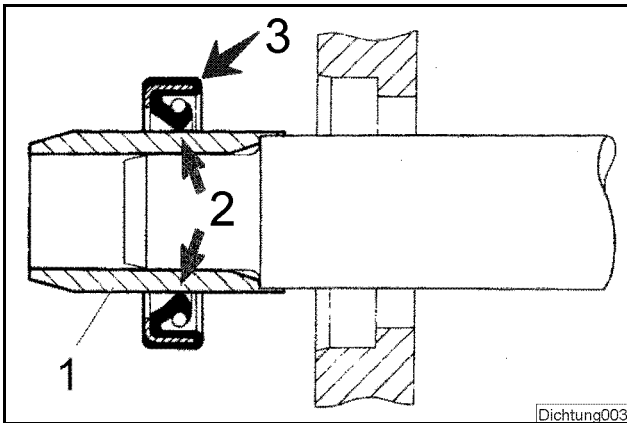

Fig. 3
- Lubricate the sealing lips (2) (Fig. 3) with clean grease; in case of double seals fill the space between the sealing lips with a generous amount of grease.
If possible, use an assembly sleeve (1 (Fig. 3)), to protect the lip from being damaged by sharp edges, threads or splines. If no assembly sleeve is avail-
- Lubricate the outer rim (arrow 3 (Fig. 3)) of the seal and press it flat on the housing seat.